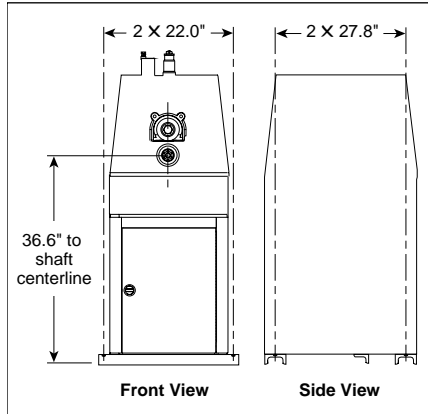

Figure 1
2. The VE274 is designed to be used in a permanent location. It should be located on a level concrete floor or base. Once located, it should be leveled and securely anchored (see Figure 1 on page 8), in a level position. A non-level tool can severely affect proper grooving operation. When checking tool levelness, place level directly on tool frame as shown above. The choice of tool location and position should take into account the following factors: